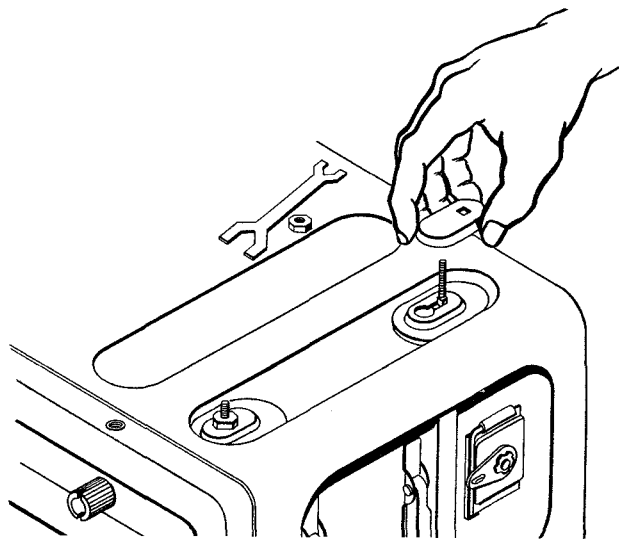

Figure 3-2. Installing Mounting Bolts
(1) ATTACHING SHOCK MOUNT.—To attach the shock mount to the CRV-46283 Radio Receiver proceed as follows:
Step 3. Prepare the receiver case for attaching the shock mount by installing the four carriage bolts removed from the shock mount assembly in the keyhole slots on the bottom of the case. Lay the case on its side, insert the head of a short carriage bolt in the keyhole slot nearest the cover of the equipment, and slide the bolt to the end of the slot. Drop one of the saddles, flanges down, over the bolt shank as shown in Figure 3-2 and screw a large nut, with the counter-bored side down, on the bolt threads. Tighten the nut with the end wrench which is attached to the shock mount base. Attach the remaining carriage bolts in a similar manner, the short bolts toward the front of the case, the long bolts toward the rear.